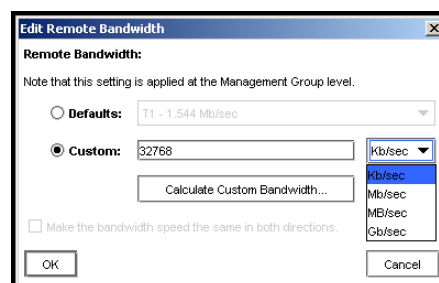

Figure 223. Editing the Remote Bandwidth
- Click Edit Remote Bandwidth. The Edit Remote Bandwidth window opens, as shown in Figure 223.